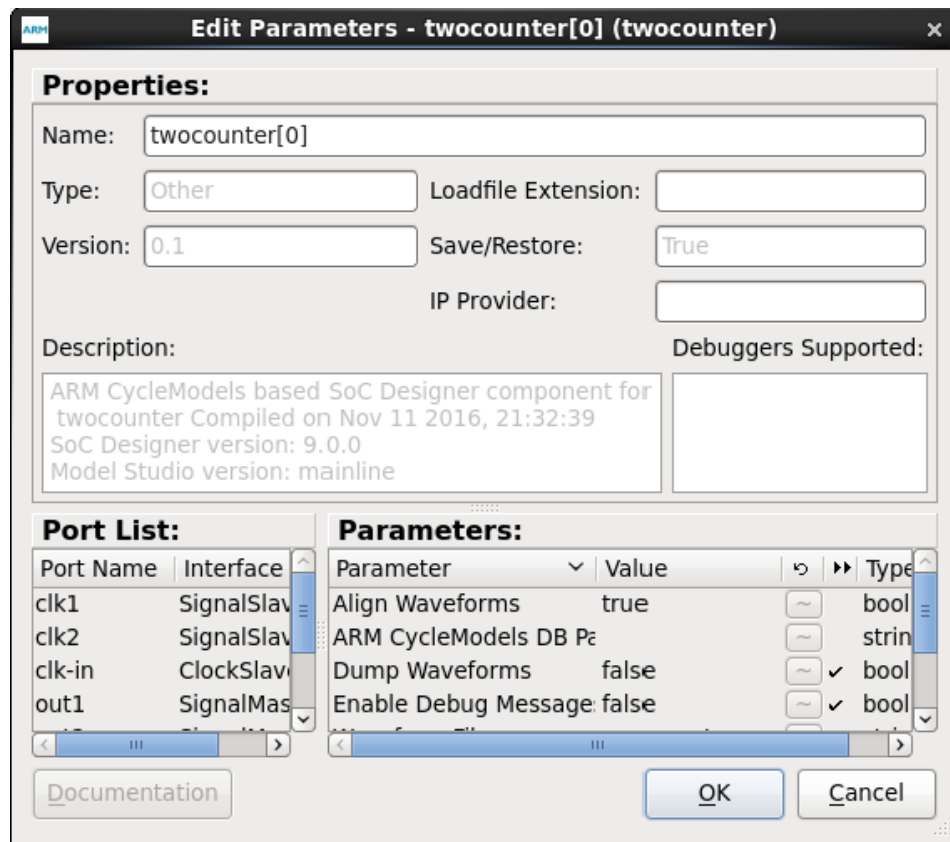

Figure 4-53 Edit Parameters dialog
1. In the Canvas, right-click on the component and select **Component Information**. The *Edit Parameters* dialog appears (Figure 4-53).